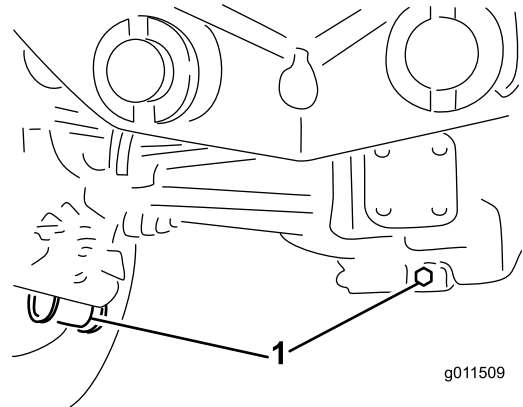

Figure 107
2. Clean the area around the 3 drain plugs; 1 on each end and 1 in the center (Figure 107).